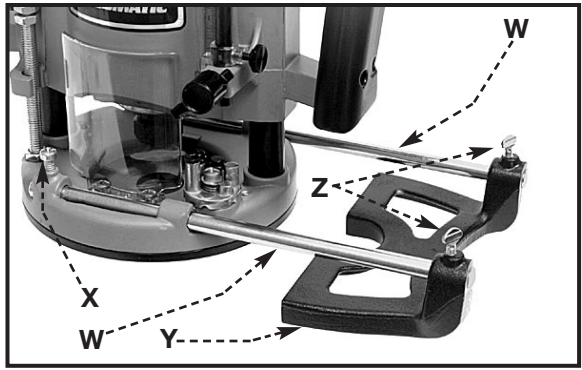

Fig. 14
To attach, insert the grooved end of the guide rods (W) Fig. 14, in holes in base and secure with two screws (X). (NOTE: These screws should engage the groove in the guide rod.) Slide the guide (Y) Fig. 14, on the rods, and adjust to the desired position. Secure with the two thumb screws (Z).